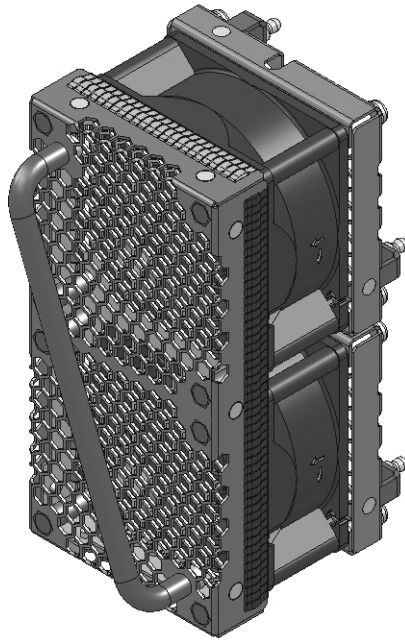

Figure 5-7 UV 300 Chassis Rear Fan Assembly Example
2. Grasp the handle of the failed cooling fan assembly and pull the unit straight out. See Figure 5-7 on page 64 for an example of the chassis fan assembly.